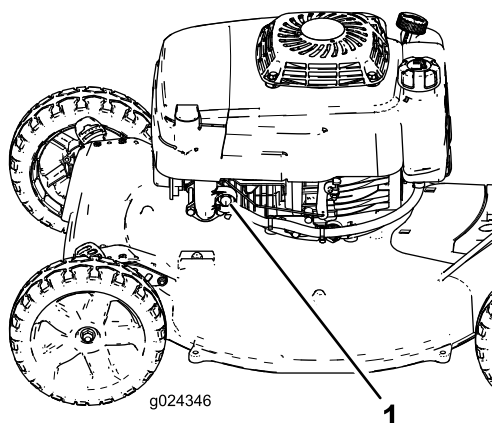

Figure 15
2. Firmly push in the primer (Figure 15), holding the primer bulb in for 1 second.